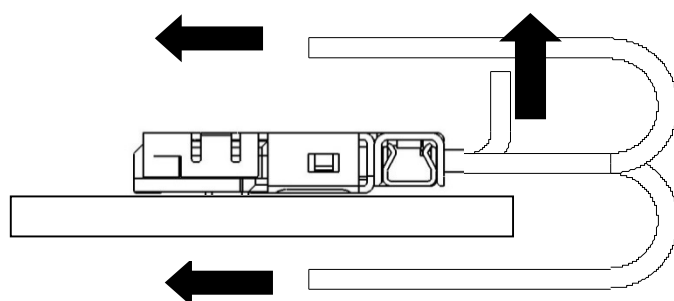

Fig.16
- Continuous force of the direction shown in black arrow in Fig. 16 can damage connectors or cause the coming off from receptacle connector. Please be careful not to apply such force.